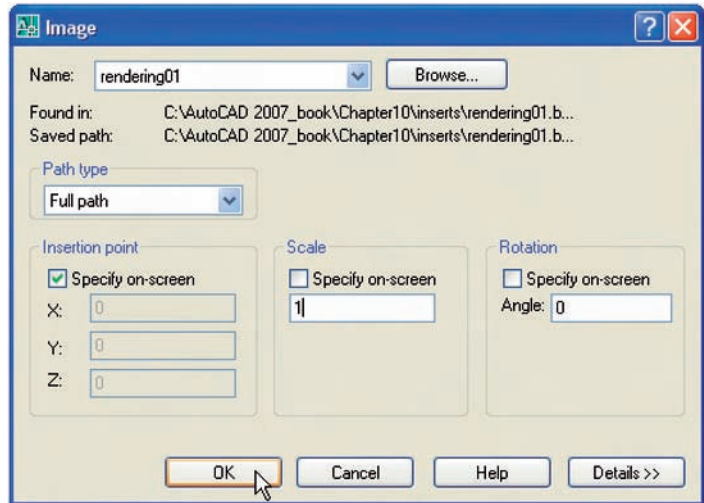

Fig. 10.11 The **Image** dialog
2. Click the **Open** button of the dialog. The **Image** dialog appears (Fig. 10.11).